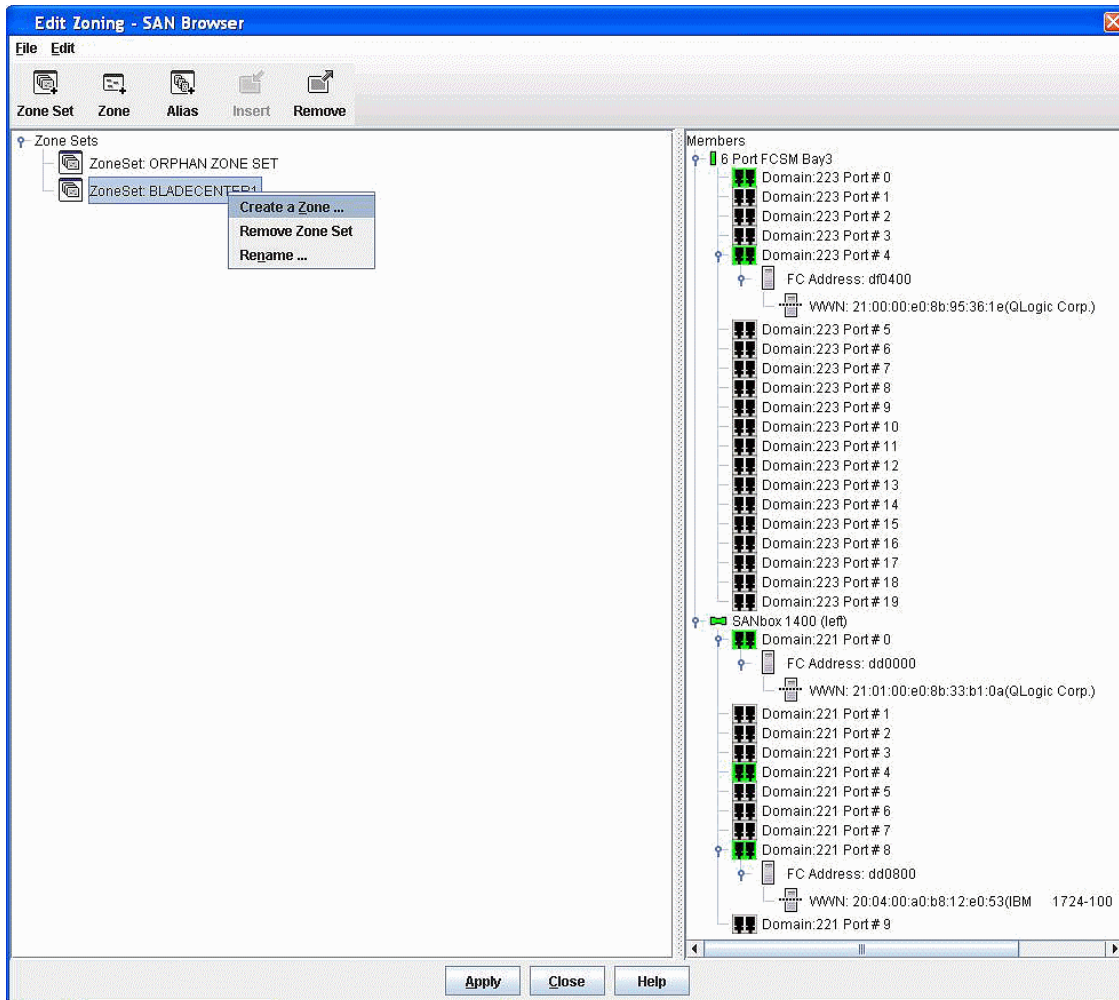
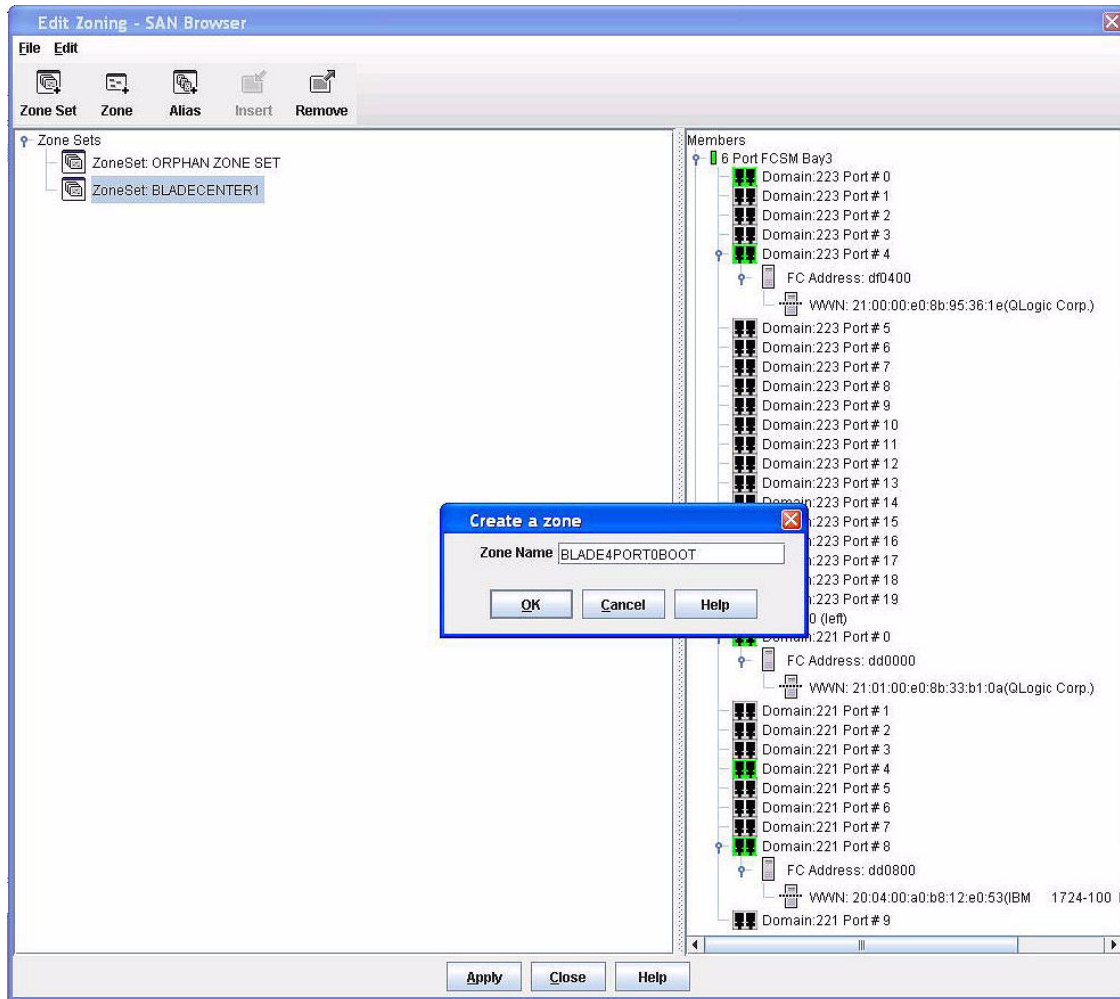

Figure 9-21 BladeCenter1 zone set created window
Figure 9-22 Creating blade4port0boot zone window
9. Once the zone set has been created, you should create a zone. Right-click **ZoneSet: BLADECENTER1** and select **Create a Zone...** (Figure 9-21). You will see a window similar to Figure 9-22 on page 296.
10. In the Create a zone dialog box, enter a name in the Zone Name field and click **OK** (Figure 9-22). In our example, we typed BLADE4PORT0BOOT. Next, you will see a window similar to Figure 9-23 on page 297.